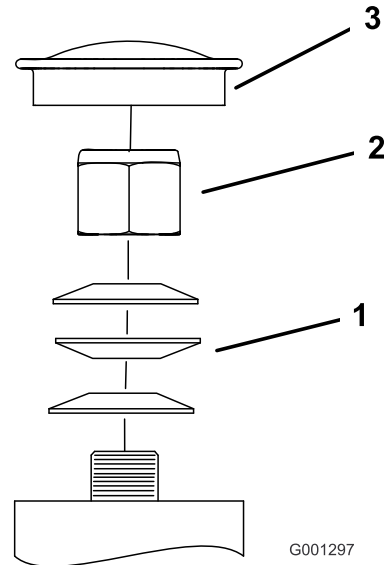

Figure 67
3. Remove the dust cap from caster and tighten lock nut (Figure 67).
4. Tighten the locknut until the spring washers are flat and then back off a 1/4 turn to properly set the pre-load on the bearings (Figure 67).
**Important:** Make sure the spring washers are installed correctly as shown in Figure 67.
5. Install the dust cap (Figure 67).